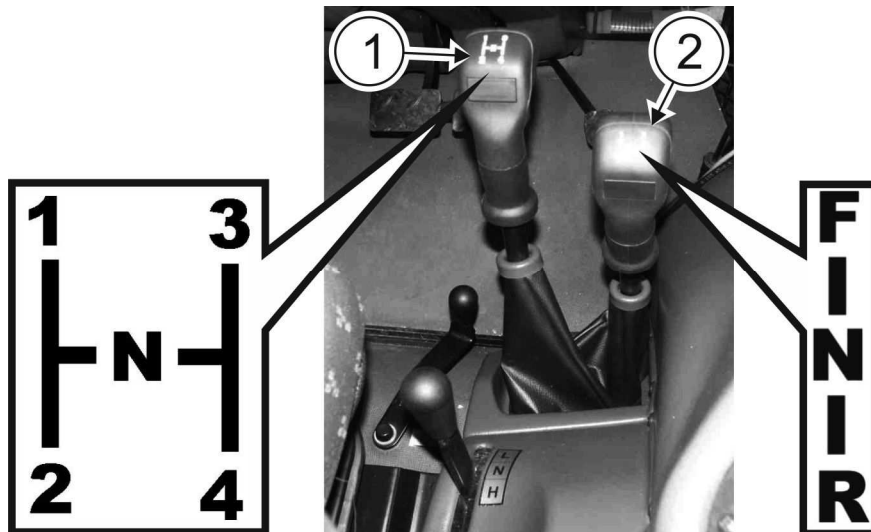

FIGURE 4.4 Gearshift lever and tractor driving direction control lever.
- make certain that tractor driving direction control lever **2** (**Figure 4.4**) and gearshift lever **1** are in neutral position **N** (pay attention to gearbox levers control diagram).